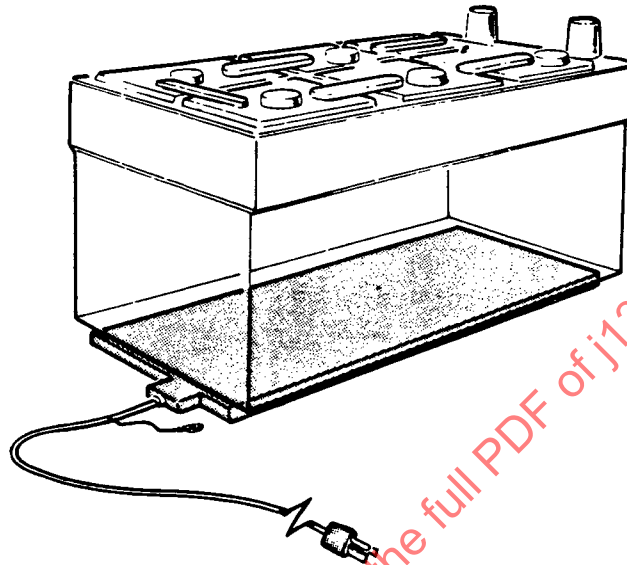

FIGURE 7
7.1.2 Mat Type: This unit (Figure 7) is comprised of a heavy gage rubber material, incorporating a serpentine pattern resistance wire element imbedded in the center area of the material. The unit relies on low watt density radiant energy to heat the battery and is intended to be mounted directly under the battery. An auxiliary thermostat option with 80°F (27°C) open setting is available.